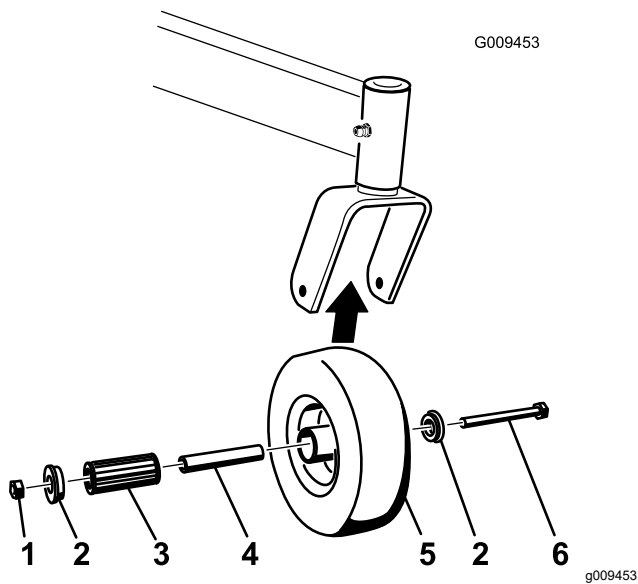

Figure 48
1. Remove the locknut and wheel bolt holding the caster wheel to the caster fork (Figure 48).
2. Remove 1 bushing, then pull the spanner bushing and roller bearing out of the wheel hub (Figure 48).
3. Remove the other bushing from the wheel hub and clean any grease and dirt from the wheel hub (Figure 48).
**Note:** Replace any damaged or worn parts (Figure 48).
5. Place 1 bushing into the wheel hub (Figure 48).
6. Grease the roller bearing and spanner bushing, and slide them into the wheel hub (Figure 48).
7. Place the second bushing into the wheel hub (Figure 48).
8. Install the caster wheel into the caster fork and secure it with the wheel bolt and locknut (Figure 48).
9. Tighten the locknut until the spanner bushing bottoms against the inside of the caster forks (Figure 48).